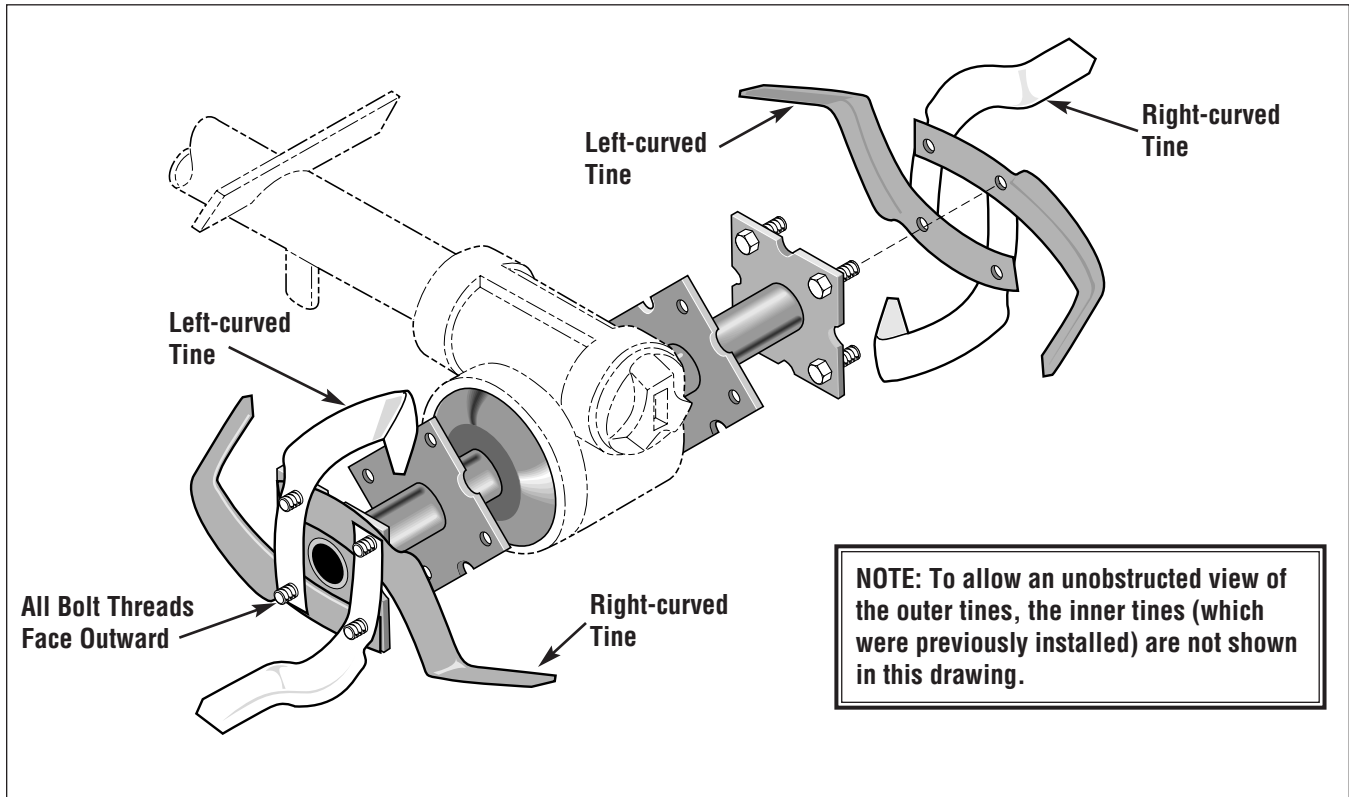

Figure 24: Installing tines on ECONO HORSE outer holders.
A. Place two *right-curved* tines (shown shaded in Figure 24) **opposite** each other on the previously installed bolts. Make sure that the tines are positioned as follows:
B. Place two *left-curved* tines (unshaded in Figure 24) **opposite** each other, overlapping the tines positioned in Step 1-A. Make sure that these tines are positioned as follows:
A. Place two **left-curved** tines (shown shaded in Figure 24) **opposite** each other on the bolts which were previously installed. Make sure that the tines are positioned as follows:
B. Place two **right-curved** tines (shown unshaded in Figure 24) **opposite** each other, overlapping the tines positioned in Step 2-A. Make sure that the tines are positioned as follows: